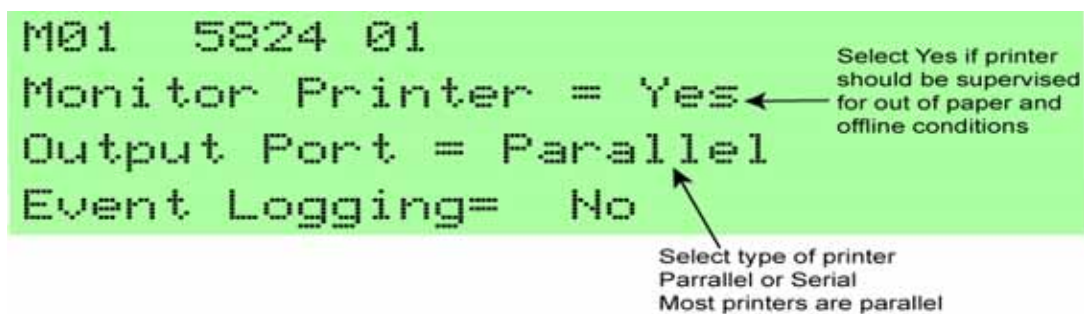

Figure 4-21 Selecting Printer and Output Port Options
5. Press **ENTER** **ENTER** to bypass the next two screens. A screen similar to the one shown in Figure 4-21 will display.